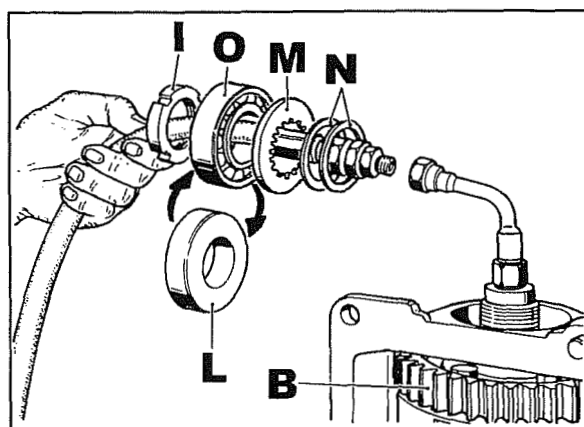

Fig. 16
Once the shimming has been calculated, disconnect the instrument as shown in fig. 16, slip locking ring **I**, test spacer **L**, washer **M** and spacers **N** on the hose to make the shimming measurement found as detailed above.
At this point, gradually bring the instrument back up to pressure and, at the same time, turn gearwheel **B** fig. 16 by hand. Check to make sure it can still turn when the pressure gauge shows **35 bar** and it becomes completely free at **40 bar**. If this is not the case, increase or decrease the shimming performance of spacers **N**.
Once the ass'y has been registered, replace the test spacer **L** fig. 16 with bearing **O**.
- Tighten locking ring **I** fig.16 at **22.5 Kgm**.